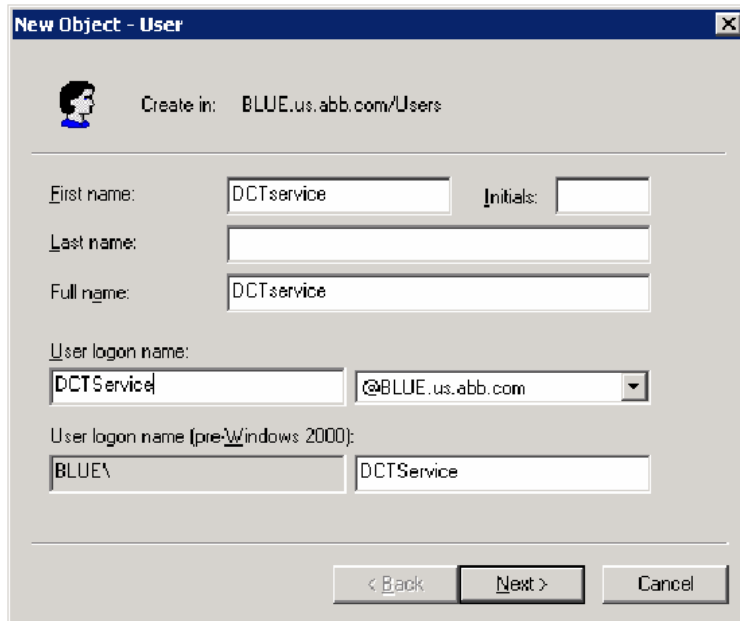

Figure 10. New Object - User Wizard
- d. Fill in the fields as shown in Figure 10 and **click** Next.